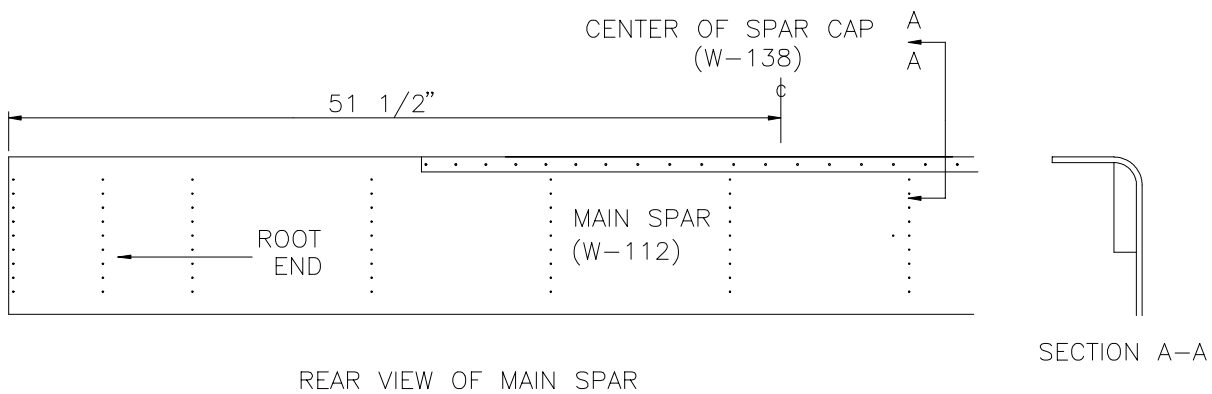

Figure 8.1.5
- 9) Clamp a Spar Cap, (W-138) securely to the Main Spar (W-112) as in Figure 8.1.5.